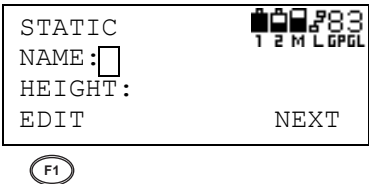

Figure 3-34. Enter Point Name
3. Press **F1** (EDIT) and enter the point name (Figure 3-34). See “Entering Numbers, Letters, and Symbols” on page 3-7 for details on this procedure.